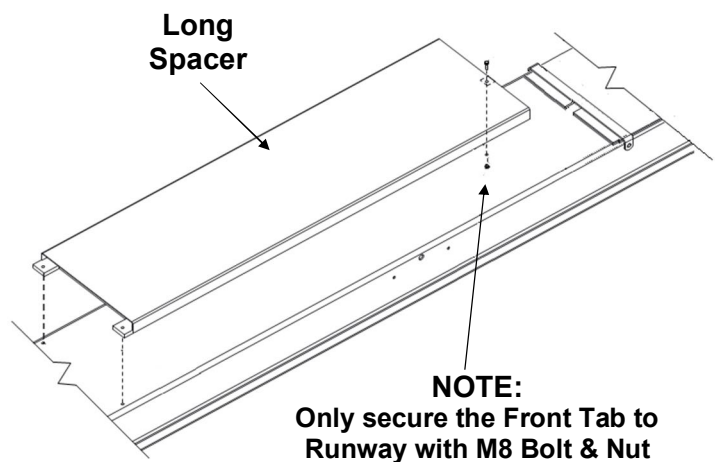

Fig. 4
- 5) Center and square the Long Spacer (#5) on Runway. Align the Tab Holes, bolting only the Front Tab to the Runway, secure using M8 Bolt & Nut - **Fig. 4**.
- 5) Using D10 Airline & Air Fitting T-Connector Reducer (M10-M6), cut a 4+ to 5+ length and connect to outlet port on FRL, making sure to route through the hole in the Control Bracket. Connect the other end, routed through hole in Bracket to one of the (M10) T-Fitting push ends, **Figs. 4 & 5**.
- 6) Connect the previously disconnect D6 Airline end from the Air Inlet Fitting to the (M6) T-Fitting end that goes to the Air Inlet Valve Port. **Figs. 4 & 5**.